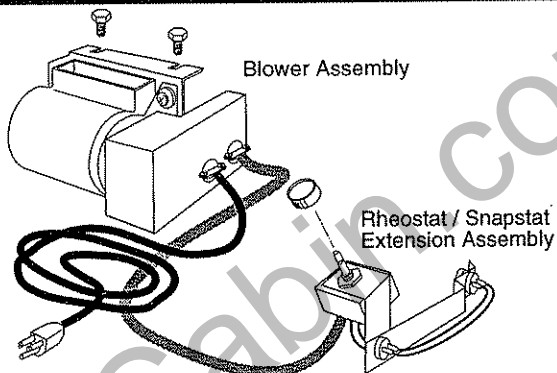

Figure 19. Fan Kit Components
4. The fan kit consists of a Blower Assembly and a Rheostat Assembly that are connected by a cable. Fig. 19. The Blower Assembly mounts to the bottom rear of the stove and the Rheostat mounts within the switch box on the left rear corner of the stove. The Rheostat contains a "snapstat" which senses the temperature within the stove heat exchanger and automatically turns the fan On (or Off) above (or below) approximately 109°. The Rheostat also provides a range of fan speed settings from Off (which overrides the snapstat function) to High.